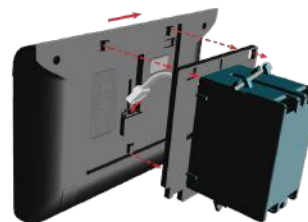

Figure 14: NPX Installation
6. Connect the RJ-45 to the port at the back of the NPX and attach the NPX to the back plate by placing and sliding it to the left until it clicks into place as shown in Figure 14.